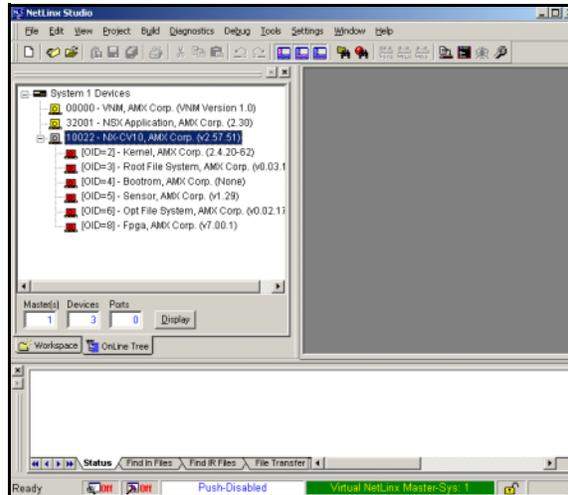

FIG. 55 Using USB for Virtual Master communication
4. Right-click on the System entry (A in FIG. 55) and select **Refresh System**. This causes a refresh of all project systems, establishes a new connection to the Virtual Master, and populates the System list with devices on your particular system.